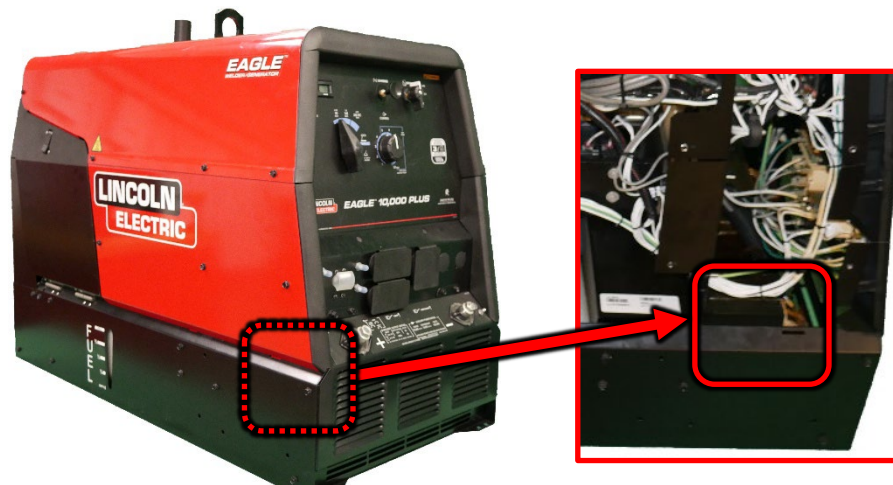

Figure F.1
1. For location of the Reactor refer to Figure F.1.